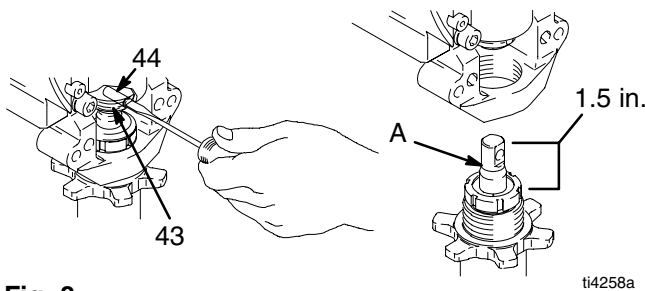

Fig. 8
4. Fig. 8. Cycle pump in JOG mode until pump pin (44) is in position to be removed. Turn power switch OFF and unplug power cord. Push up retaining ring (43) and push pump pin out.
1. Fig. 8. Extend pump piston rod 1.5 in. Apply grease to top of pump rod at (A) or inside connecting rod.